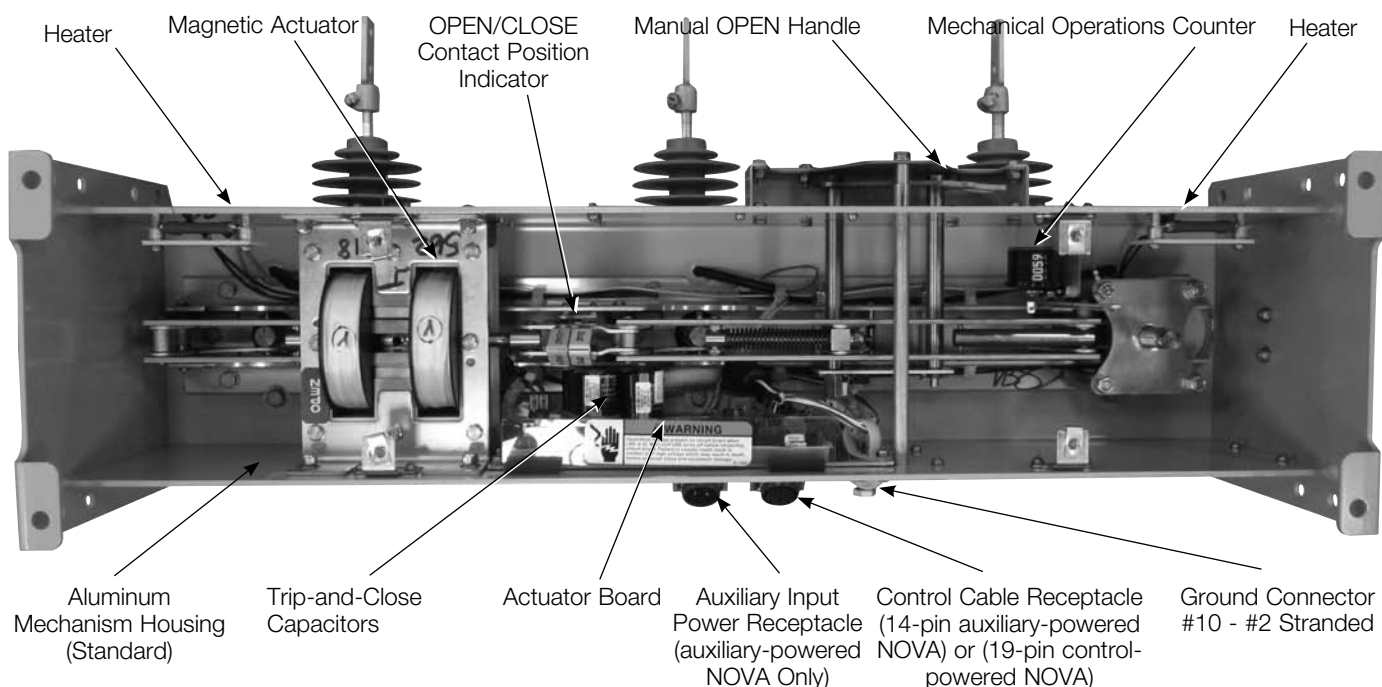

Figure 4.
- Refer to Figure 4 for ground connector location. The ground clamp accepts #10 to #2 stranded cables.